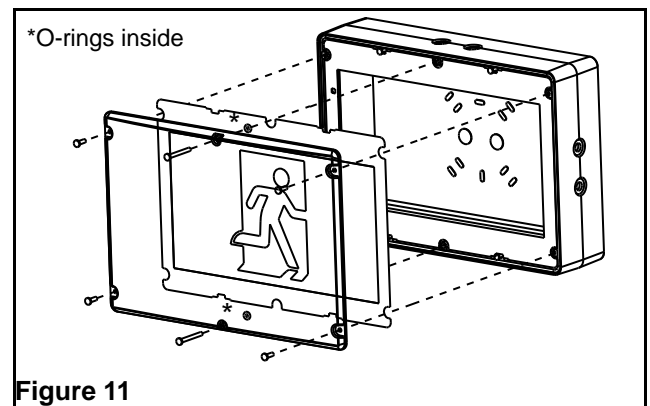

Figure 11
5. Install the lens by using the 6 tamper-proof screws. The o-rings must be installed on the screw between the lens and the frame as shown in Figure 11.
5. Install the lens by using the 6 tamper-proof screws. The o-rings must be installed on the screws between the lens and the frame as shown in figure 11.